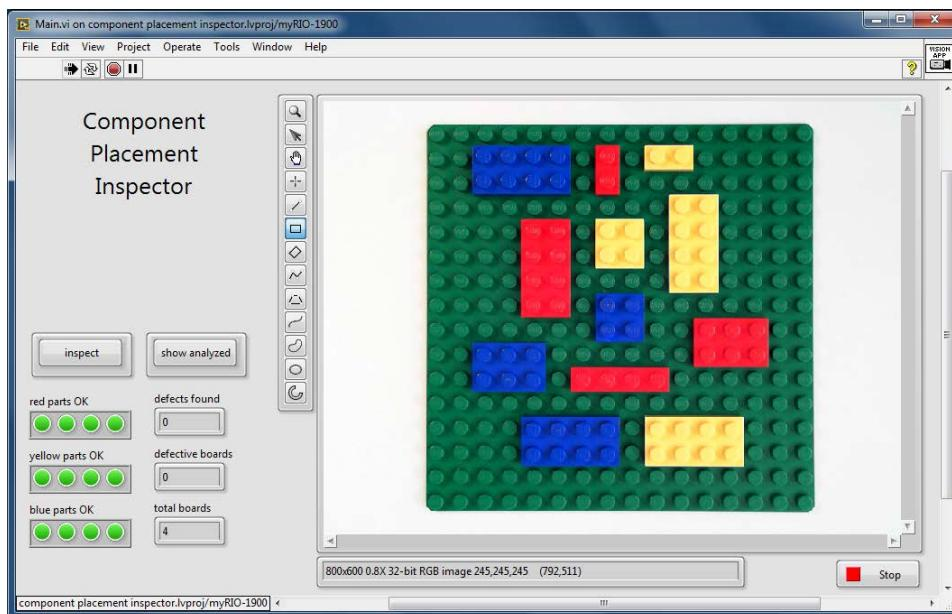
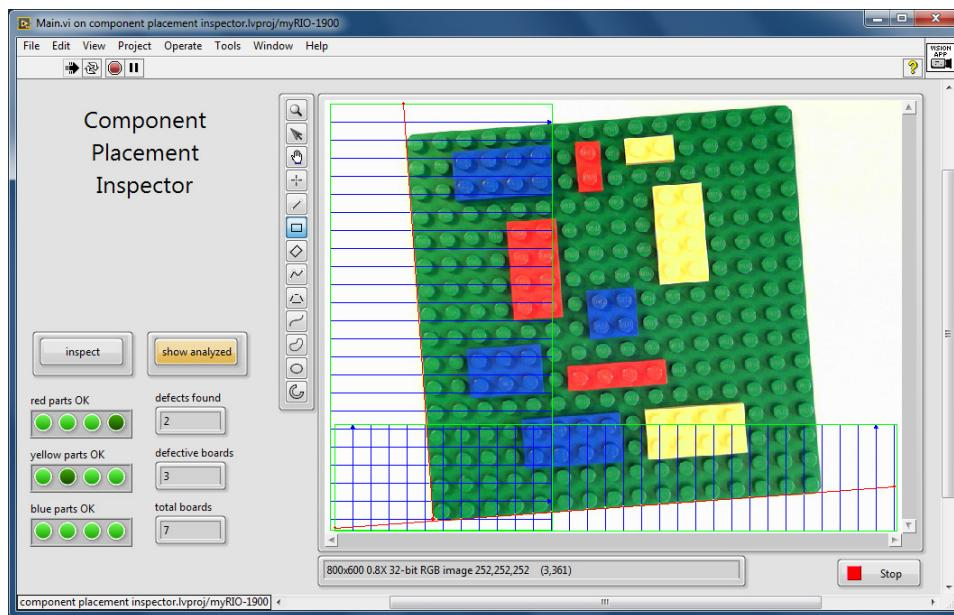

Figure 14.1: Front panel of the *Component Placement Inspector* application.
Figure 14.2: Analyzed output from the vision script with a board that is tilted and missing a red brick and a yellow brick.
Figure 14.1 on the preceding page shows the front-panel of the *Component Placement Inspector* application viewing a defect-free board. Figure 14.2 on the next page shows the analyzed image when the board is tilted and missing a red brick and a yellow brick.
- Create a mock-up of a printed circuit board with properly-placed components similar to that pictured in Figure 14.1 on page 101. Use several of each color and size of brick.